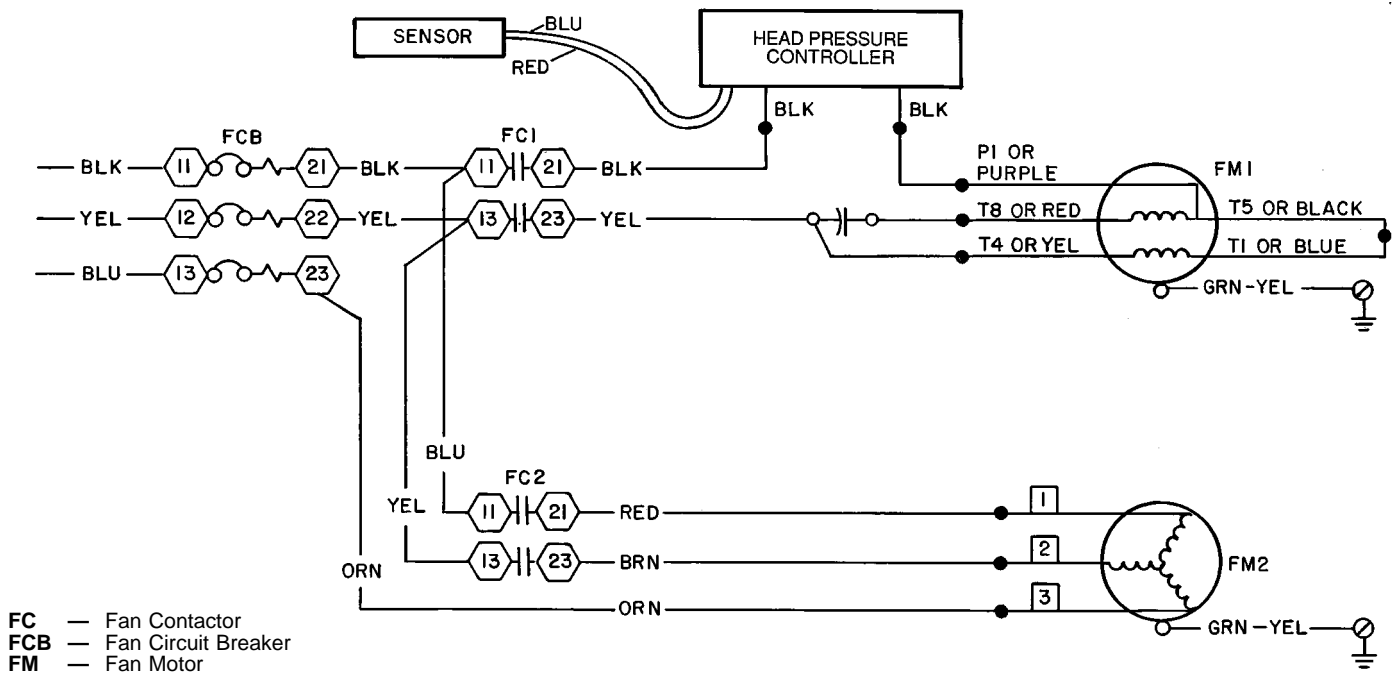
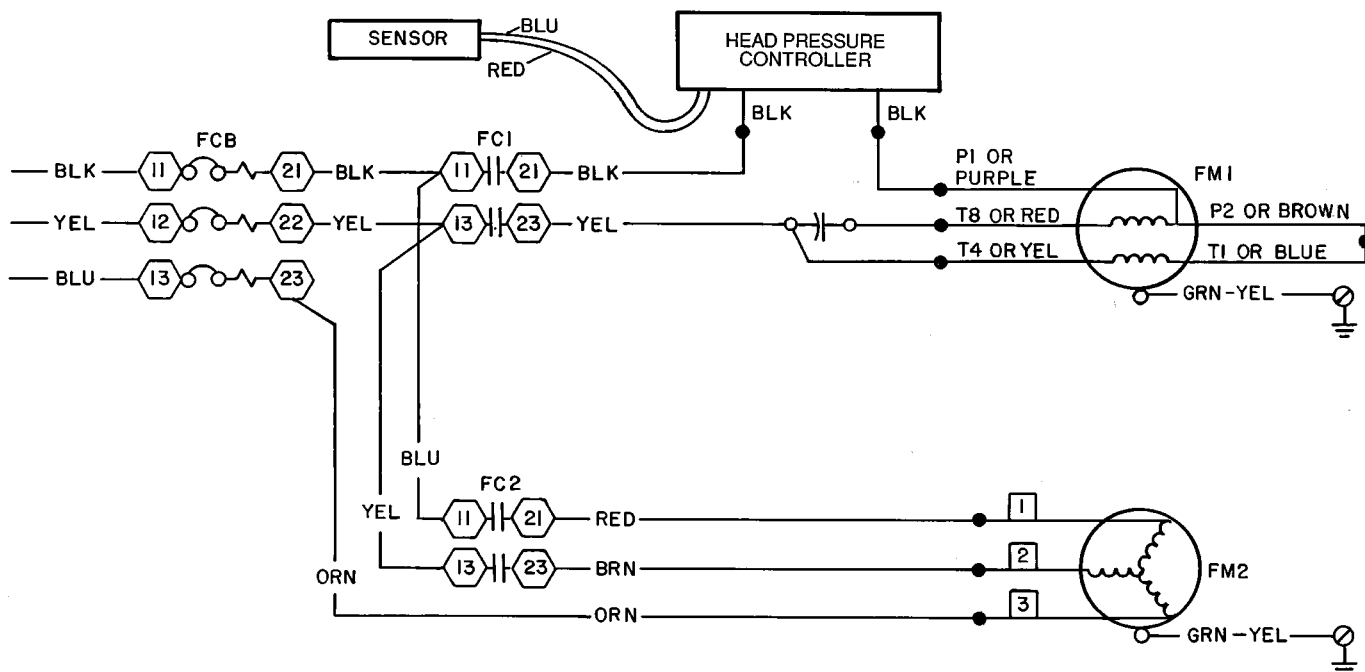

Fig. 16 — Head Pressure Controller Wiring, 208/230 V 576B Units
Fig. 17 — Head Pressure Controller Wiring, 460 V 576B Units
9. Connect yellow wire from terminal 23 on FC1 to the capacitor. See Fig. 16 and 17. Run second wire (field supplied) from the same terminal on the capacitor to the yellow wire (T4) in the speed control motor junction box. Connect using wirenut. On the 460-v motor, tie the blue (T1) and brown (P2) wires in the motor junction box together, using a wirenut. See Fig. 17. On the 230-v or 575-v motor, tie the blue (T1) and black (T5) wires in the motor junction box together. See Fig. 16.
13. On 208/230-v and 460-v units, connect the black wire from terminal 21 on FC1 to one of the black wires in the head pressure controller. Use wirenut to connect. See Fig. 16 and 17. On all units, run field-supplied wire from the other black wire in the controller (connect with wirenut) to the purple wire (P1) in the speed control motor junction box. Use wirenut to connect. See Fig. 15-17. Replace junction box cover.